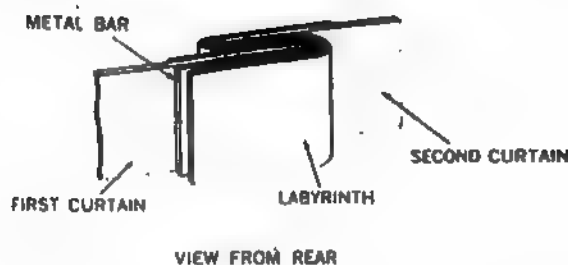

Figure 4-2. Position of Curtain Bar and Labyrinth.
- (6) Wind the shutter about half-way. The crimped edge of the first curtain bar should extend for approximately 0.7mm outside the second curtain labyrinth, when viewed from the rear (fig. 4-2).
- (7) Rotate the second curtain roller with the thumb until a narrow slit is visible between the first and second curtain. The edges of the curtains must be parallel to each other.
- (8) If the edge of the second curtain is not parallel with the first curtain, reglue one of the second curtain ribbons.
- (9) Wind the shutter, set the shutter speed dial to "B", and release the first curtain. Hold the shutter release button in the depressed position.
- (10) Check the position of the second shutter curtain, using gauge 42-253.01-Z1A92. The edge of the curtain should be between 3.05mm and 3.55mm from the edge of the film apertu
- (11) If the edge of the second curtain is not within the tolerances in (10) above, reposition the curtain. Loosen the two screws of the holding bar, move the curtain, and retighten the screws.
- (12) Release the tension of the second curtain spring roller until the ribbons are slack. Allow 12-hours for the glue to dry before retensioning the spring.
- (13) Retension the second shutter curtain spring roller, and adjust the shutter speeds as described in paragraph 4-8.